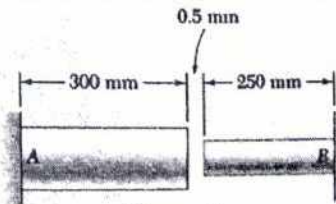

Figure 1
- Q1 At room temperature (20°C) a 0.5 mm gap exists between the ends of the rods as shown in Figure 1. The rod A is made of aluminium whose area is 2000 mm², $E = 75$ GPa, and $\alpha = 23 \times 10^{-6}$ /°C. The rod B is made of steel whose area is 800 mm², $E = 190$ GPa, and $\alpha = 17.3 \times 10^{-6}$ /°C. At a later time when the temperature has reached 140°C, determine (a) the normal stress in the Aluminium rod, (b) the change in the length of the aluminium rod. (12)